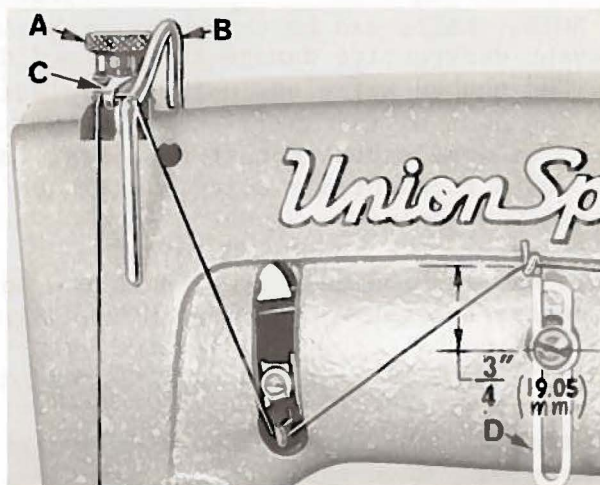

Fig. 15
Regulate the presser spring regulating screw (A, Fig. 15) so that it exerts only enough pressure on the presser foot to feed the work uniformly when a slight tension is placed on the fabric. This is the knurled screw, located directly behind the needle bar in the head of the machine. Turning it clockwise increases the pressure, counterclockwise acts the reverse.
Set the needle thread take-up wire (B, Fig. 15) located adjacent to the needle bar thread eyelet (C) so that its upper surface is even with the top of the hole in the needle bar thread eyelet when the needle bar has completed its downward stroke. Lower this setting for a smaller needle thread loop, or raise it for a larger loop. Set the needle thread frame eyelet (D) as high as possible without pulling thread through the tensions on the down stroke of the needle bar, yet so all thread is pulled through the tension post eyelet when the needle bar has completed its upward stroke.